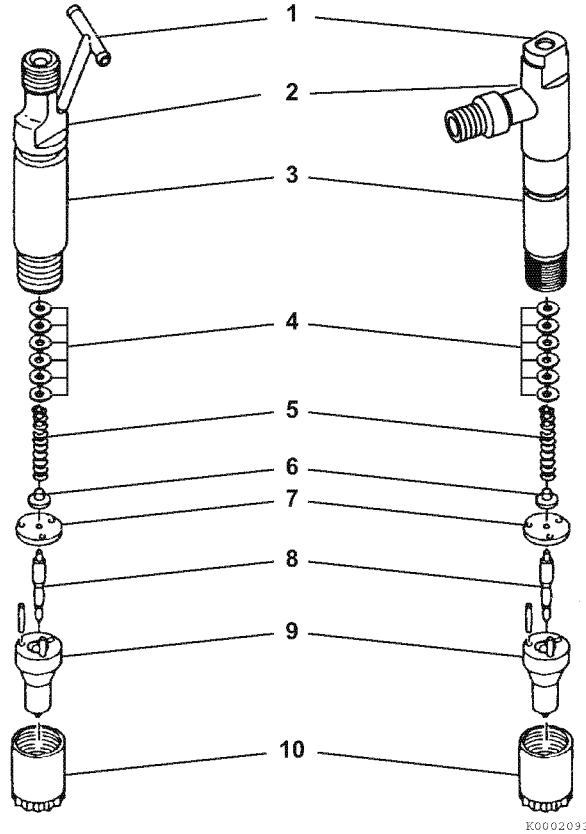

**Figure 7-59**
- 2- While holding the nozzle body vertical, pull the nozzle valve about 2/3 of the way out (**Figure 7-59**).